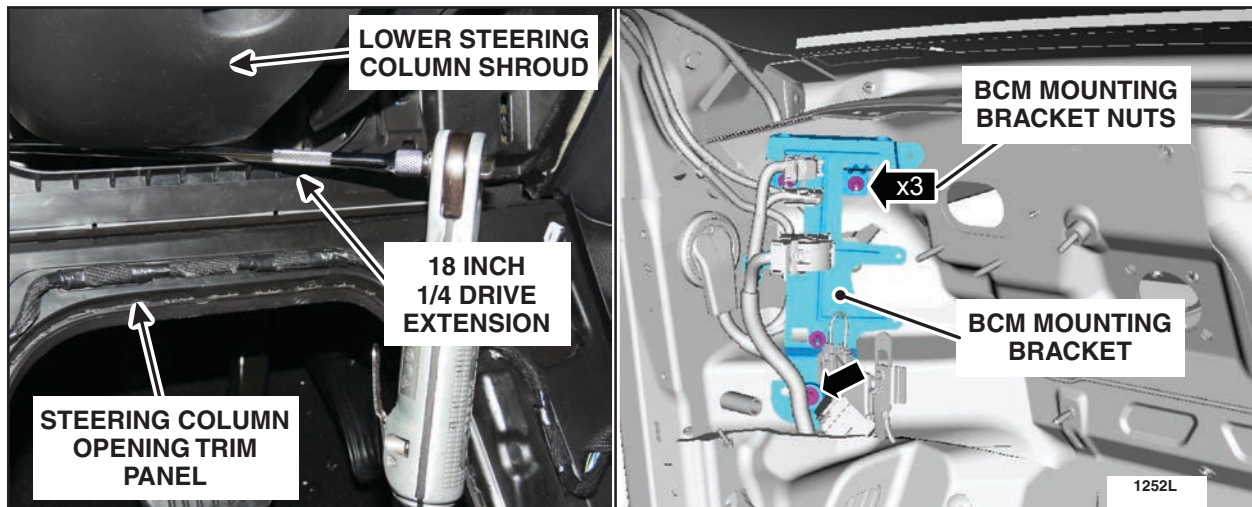

FIGURE 11
21. **NOTE:** The use of an 18 inch, 1/4 drive extension between the steering column opening trim panel and lower steering column shroud will aid in the removal of the BCM mounting bracket nuts. See Figure 11.
Position aside the BCM mounting bracket by removing the three bracket nuts. Only position aside far enough to access the electrical connector behind the bracket. See Figure 11.